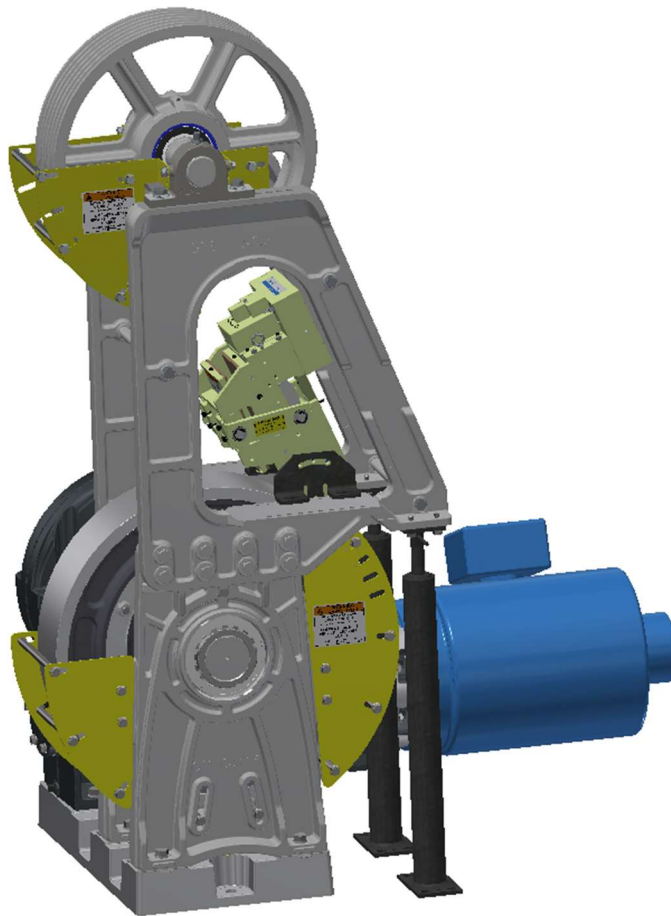

Figure 4-21: OD Machine with Mounted Gripper
- See Figure 4-21 for an illustration of a finished installation.